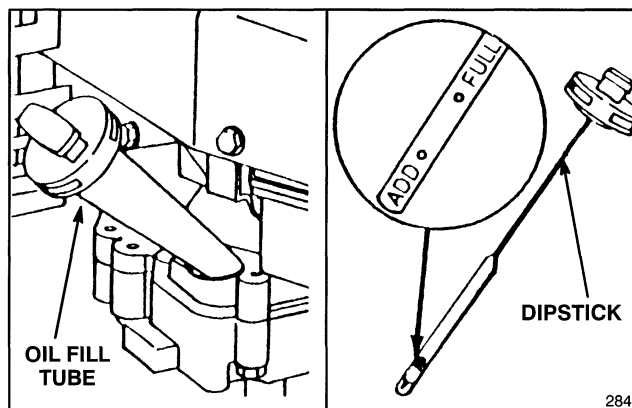

Figure 6
Fill crankcase with SAE 30 oil until oil level reaches FULL mark on dipstick as shown in Figure 6. The maximum crankcase capacity is 25 ounces (0.75 liters) of oil. Use any high quality detergent oil having the American Petroleum Institute (API) “service classification”—SE, SF or SG.
Before each use, ensure oil level is between ADD and FULL marks on dipstick (Fig. 6). Add oil if level is low.
3. Wipe dipstick and insert it into filler neck. Rotate cap clockwise 1/4 turn. Then remove dipstick and check level of oil (Fig. 6). If level is low, add only enough oil to raise level to FULL mark on dipstick. **DO NOT FILL ABOVE FULL MARK BECAUSE ENGINE COULD BE DAMAGED WHEN STARTED. POUR OIL SLOWLY.**
1. **CHECK OIL LEVEL**—Maintain oil level between ADD and FULL marks as shown on dipstick (Fig. 6).